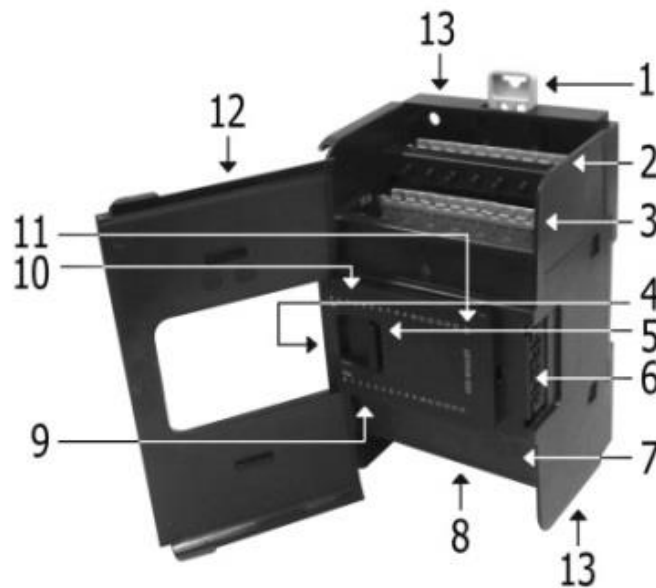

Figure 15. I/O Module
- The I/O Bus – Left (# 4 in Figure 15) will be connected to the ModCon75 Touch CPU module.
- The I/O Bus – Right (# 6 in Figure 15) do not remove its Bus Connector Cover.
- Disconnect the I/O terminals (#7, 8 shown in Figure 15).